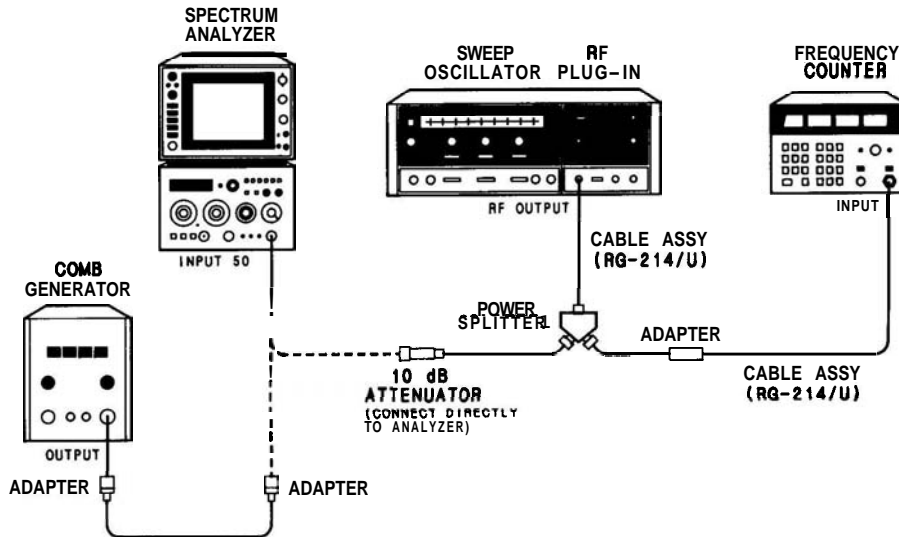

FIGURE 4-4. TUNING ACCURACY TEST SETUP
3. Connect comb generator to spectrum analyzer INPUT 50Ω as shown in Figure 4-4.
7. Connect sweep oscillator to spectrum analyzer INPUT 50Ω as shown in Figure 4-4.